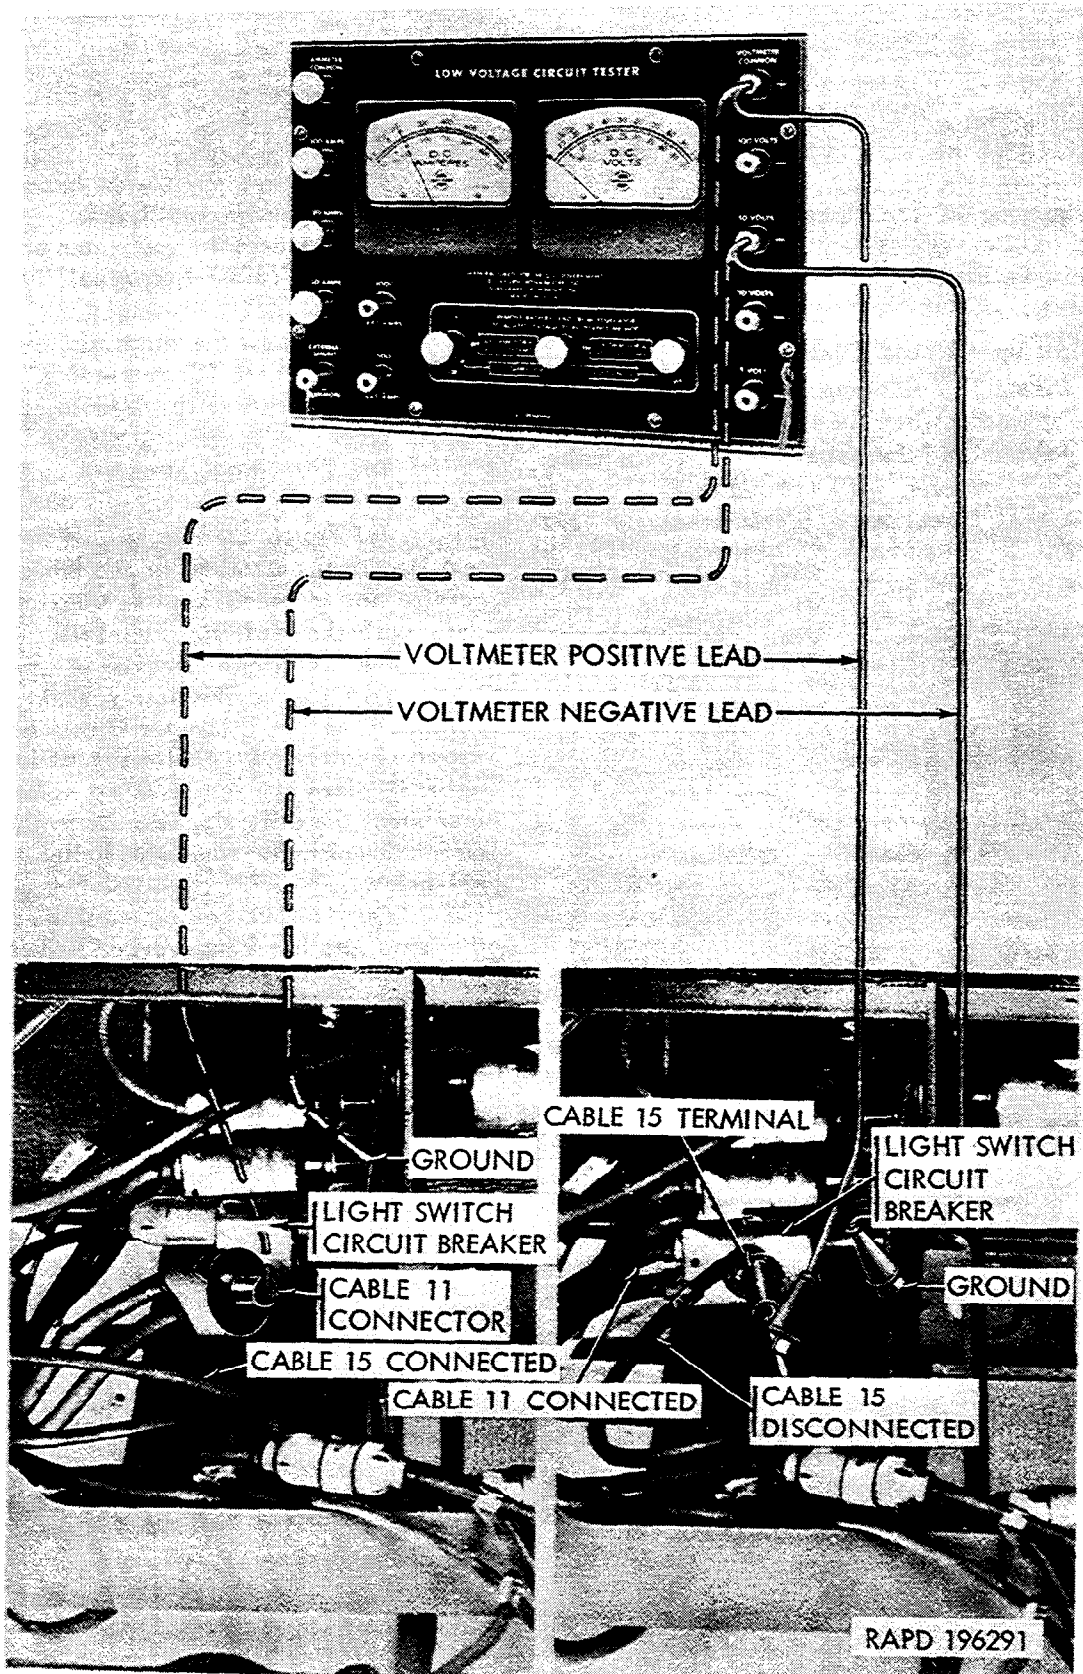

Figure 2-38. Checking for current at circuit breaker.
(2) *Check for current through light switch circuit breaker (fig. 2-38).*
(3) Check current to circuit breaker (fig. 2-38).